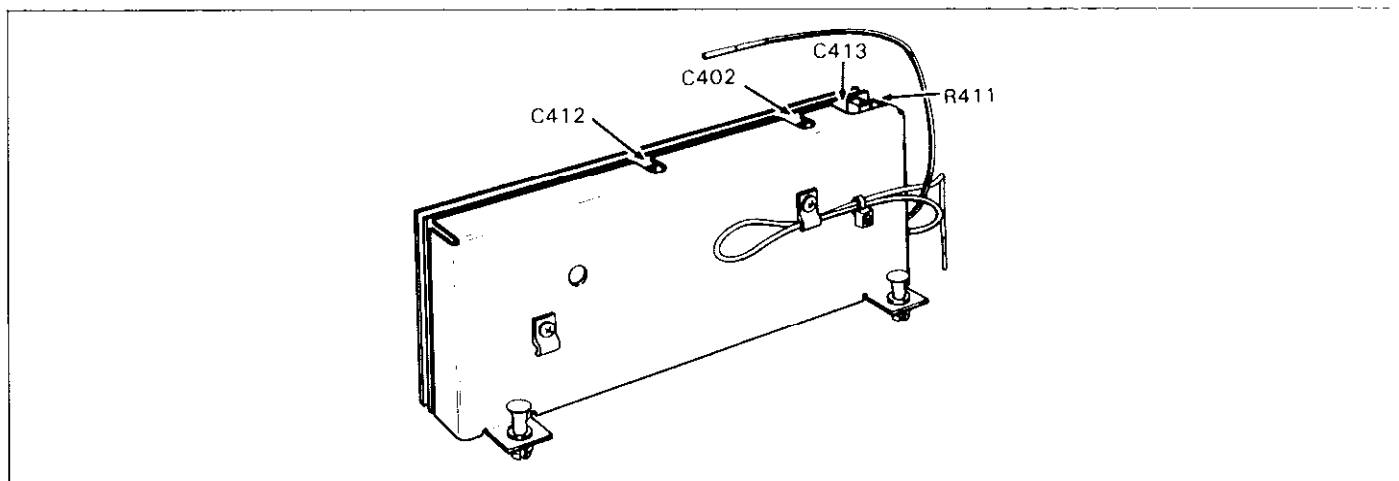

Figure 6-7. TRMS AC Volts Calibration Adjustments
- D. After allowing sufficient time for the measurement to settle, use an insulated alignment tool to adjust C413 (see Figure 6-7) for a display reading of 100.000V  $\pm$ 250 counts.